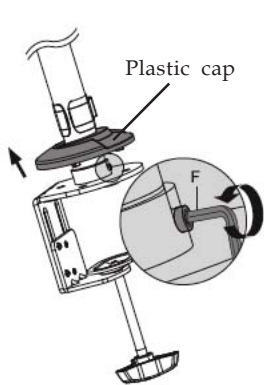

Figure 3
1. Lift up the plastic cover and use a 3mm Allen Key (F) to remove the Hex Nut from C-Clamp, see Figure 3.